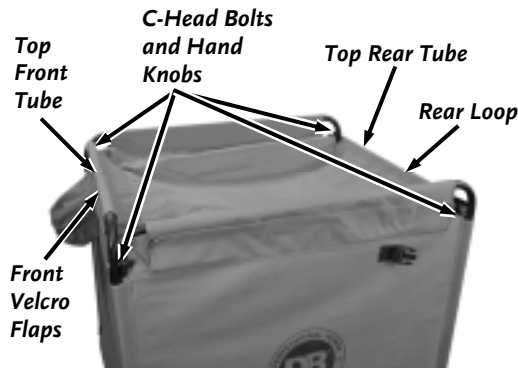

Figure 87
6. Unhook the Velcro Flaps that secure the Enclosure to the Top Front Tube (**Figure 87**).